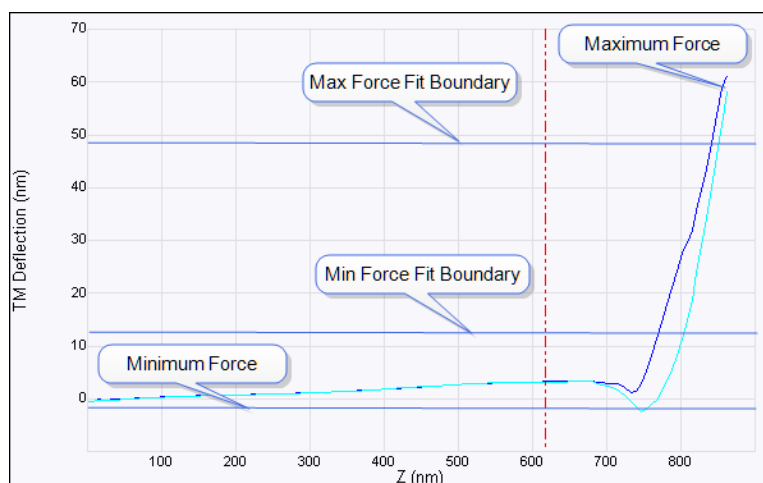

Figure 7.4f: Minimum and Maximum Force Fit Boundaries defined
Minimum Force Fit Boundary	Defined as a percentage of the [(Maximum Force) - (Minimum Force)]. See Figure 7.4f for details.
Maximum Force Fit Boundary	Defined as a percentage of the [(Maximum Force) - (Minimum Force)]. See Figure 7.4f for details.
5. Enter a value for the **Minimum Force Fit Boundary**. The **Minimum Force Fit Boundary** is defined as a percentage of the [(Maximum Force) - (Minimum Force)]. See Figure 7.4f.